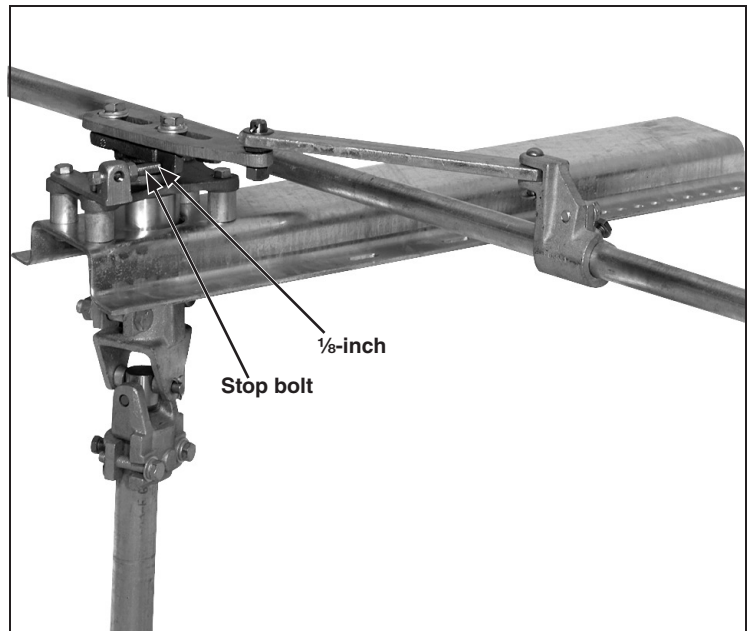

Figure 39. Adjust the outboard bearing crank-arm stop bolt for power operation.
- (f) When an S&C Type AS-1A Switch Operator or an S&C 6801M Automatic Switch Operator is used, verify—with the switch fully closed—there is a clearance of approximately $\frac{1}{8}$ -inch between the outboard bearing crank-arm and its stop bolt. See Figure 39. (This clearance is essential to prevent bending of the stop bolt during power operation.) Adjust the stop bolt to provide this clearance *after* any other adjustments are made to achieve full closure, stroke, or toggle action. Retighten the locknut when adjustment is complete.